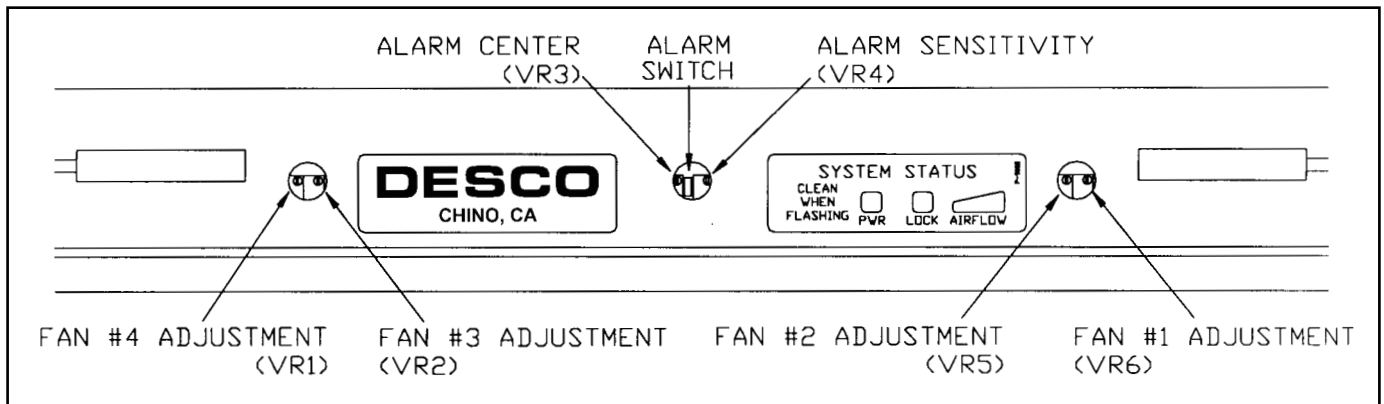

Figure 4. Calibrating C/E Ionizer
- **MINOR ADJUSTMENTS ACCESS** (see figure 4). Each fan zone may be balanced separately. The adjustments are designed for minor corrections to balance one fan to another. Overall balance adjustments should be done with the "BAL" switches on the end panel.
See figure 4.